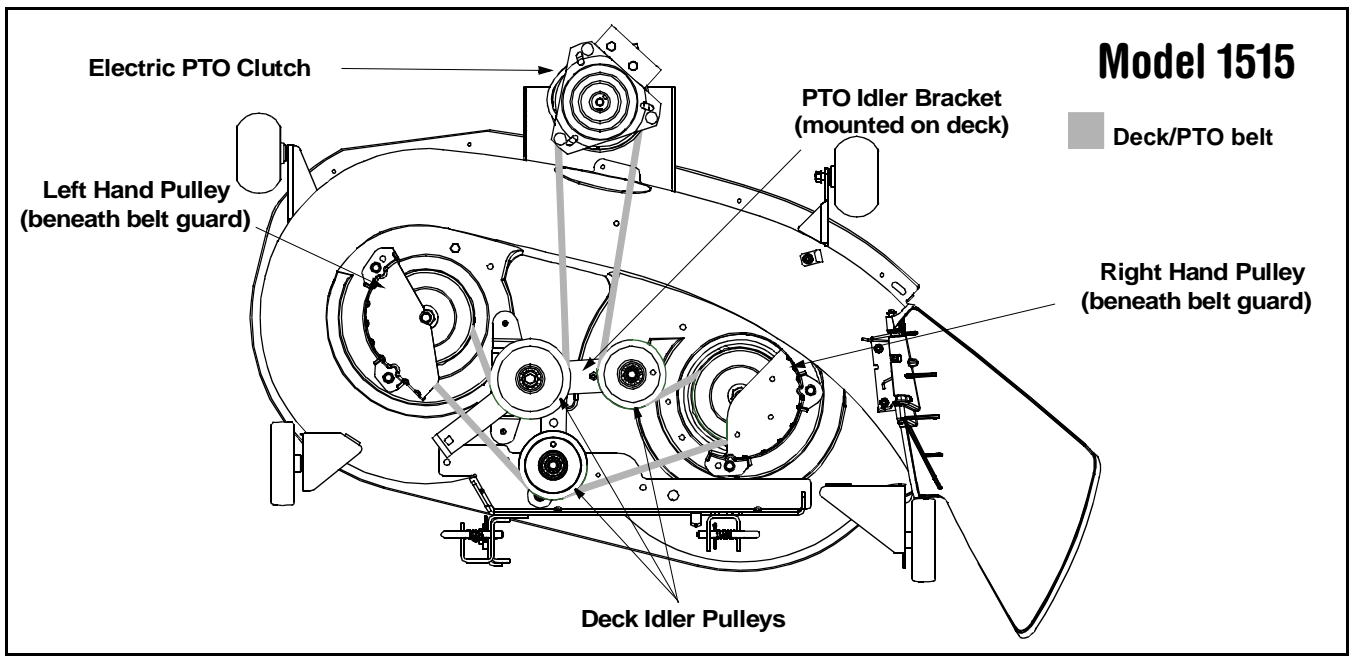
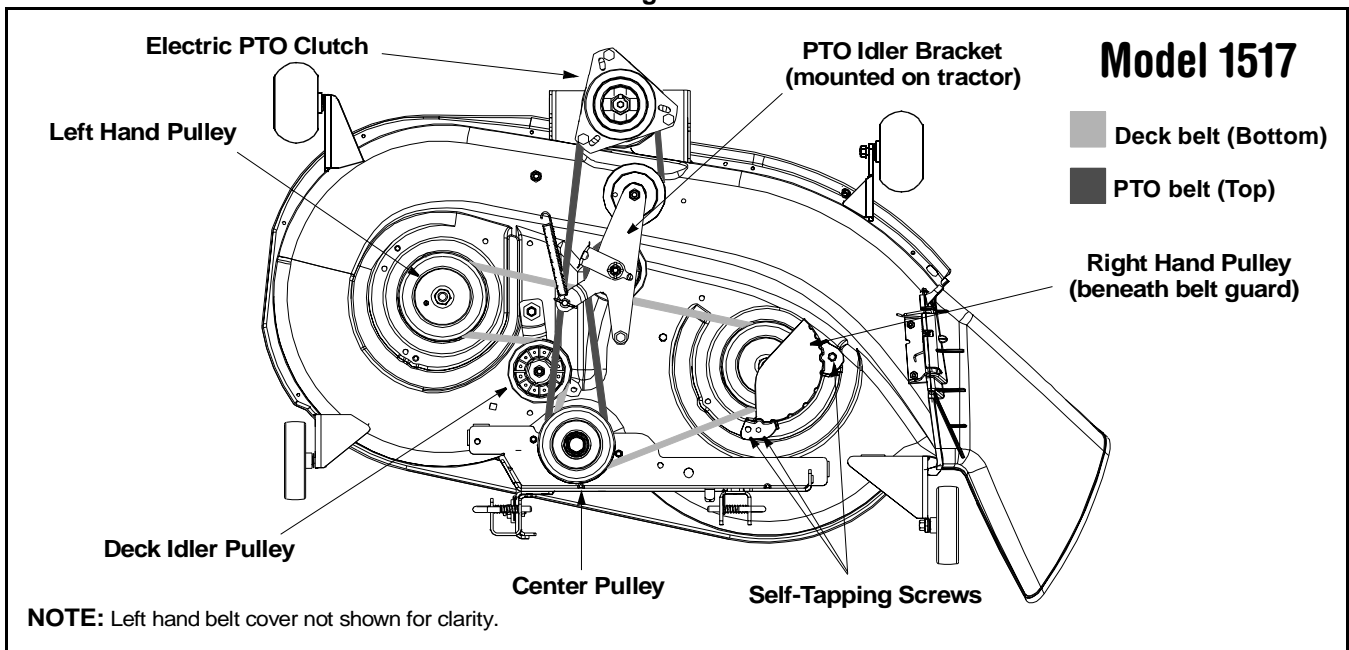

Figure 28
Figure 29
- Remove the PTO belt from around the tractor's electric PTO clutch. Refer to Figure 28 or Figure 29.
- Remove the belt guards by removing the self-tapping screws that fasten them to the deck. See Figure 28 or Figure 29.
- Route the new belts as shown in Figure 28 or Figure 29.